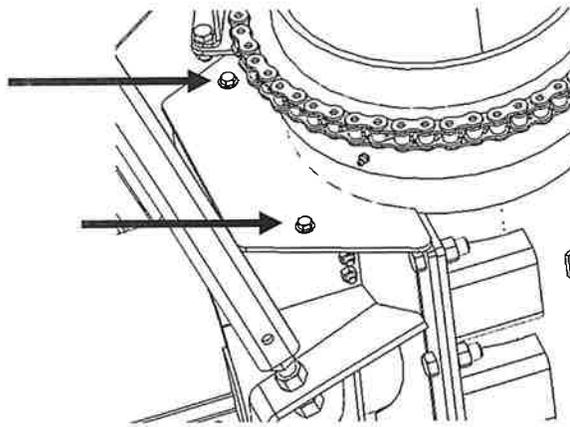

Figure 1
1. Using a 9/16" wrench and socket remove two bolts, nuts, and washers securing the cover plate as shown in Figure 1 below and remove the cover plate.